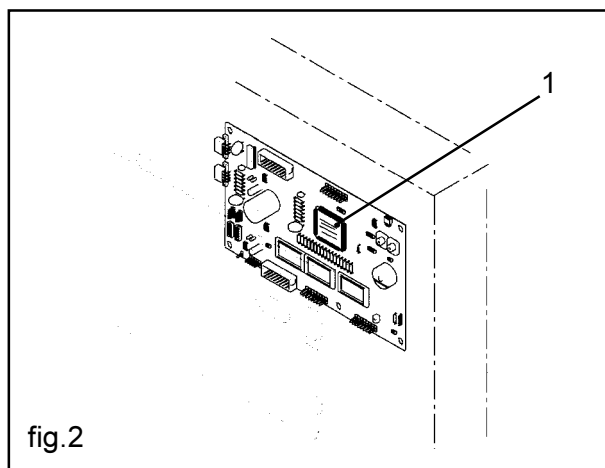

fig.2
- The version of program resident in the microprocessor (see the adhesive label on the component mounted on the C.P.U. card (ref. 1, fig. 2) or, if possible, the version of program shown on the machine display when button 2 is pressed on the CPU card to activate the "Service" mode (fig. 42).